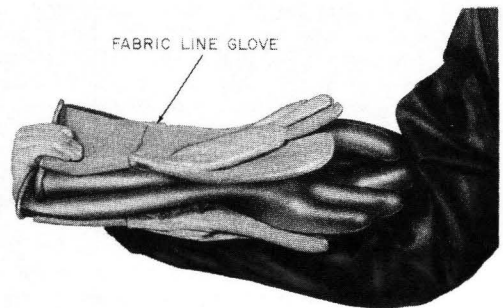
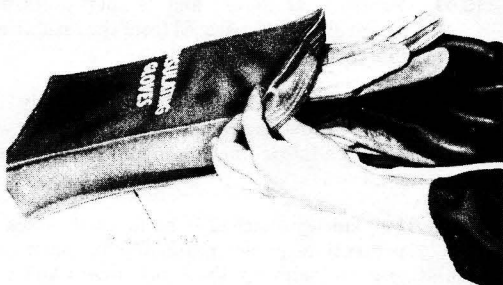

Fig. 7—Stacking Gloves
Fig. 8—Placing in Storage Bag
10.06 Grasp all gloves together at the cuff in one hand and slide the hand holding the cuffs into the bag (Fig. 7). Insulating gloves must be stored with the fingers up to prevent them from collapsing or putting undue stress on the finger area (Fig. 8). When closing the zipper, keep one finger inside, guiding the zipper, to ensure that the insulating gloves are not pinched.